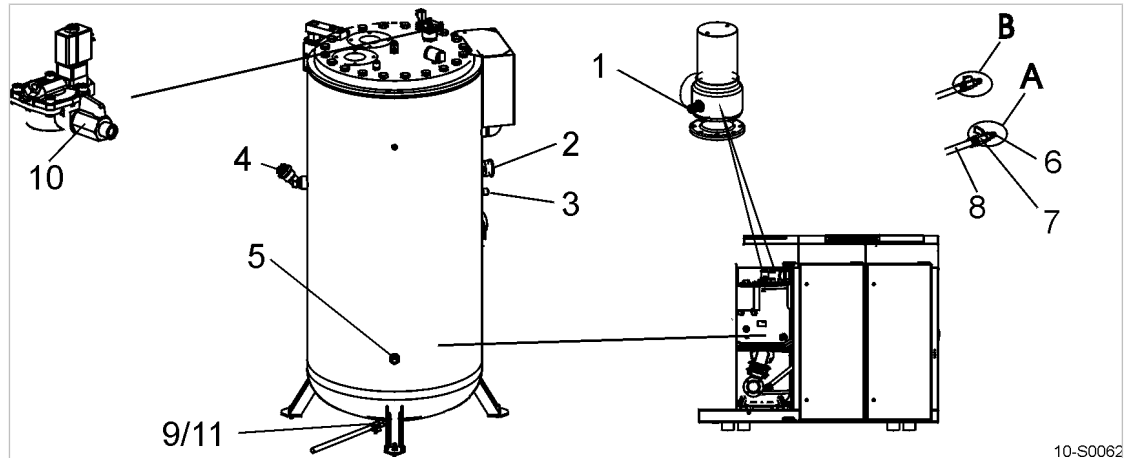

Fig. 37 Changing the cooling oil, oil separator tank
2. With the shut-off valve closed **7**, insert the male hose fitting **6** (Fig. 37) into the hose coupling **2**.
4. Open shut-off valves **3** and **7** (Fig. 37)
1. Open the filler plug **4** (Fig. 37) slowly.